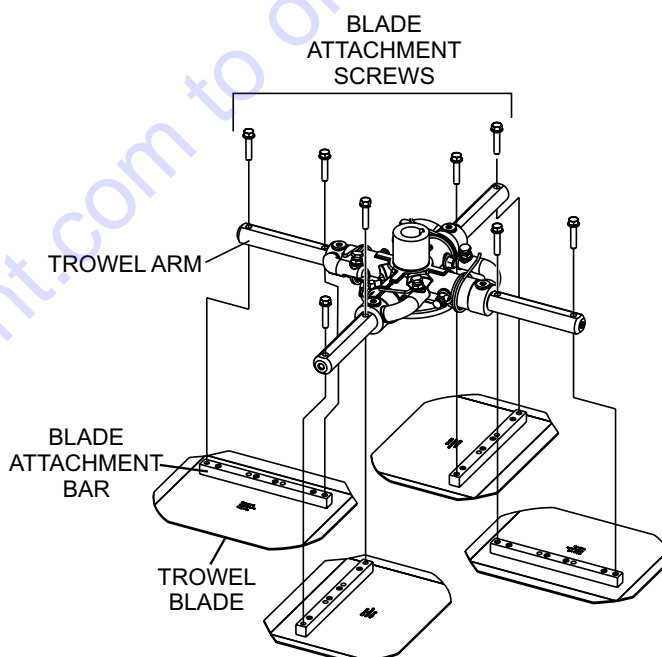

Figure 64. Blade Removal
2. Remove the bolts and lock washers from all the towel arms, and then remove the blades as shown in Figure 64.